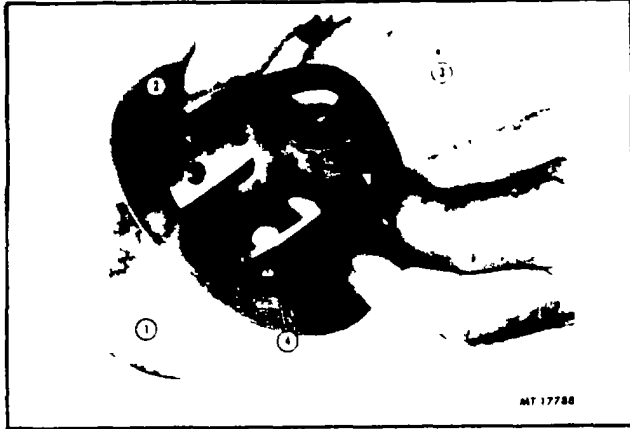

Fig. 12. Removing cage and Inner Race
- Roll universal joint cage at a right angle to universal joint outer race bell with the two elongated openings in cage aligned with opposite teeth of outer race bell (Fig. 12) Lift cage and inner race from outer race bell.